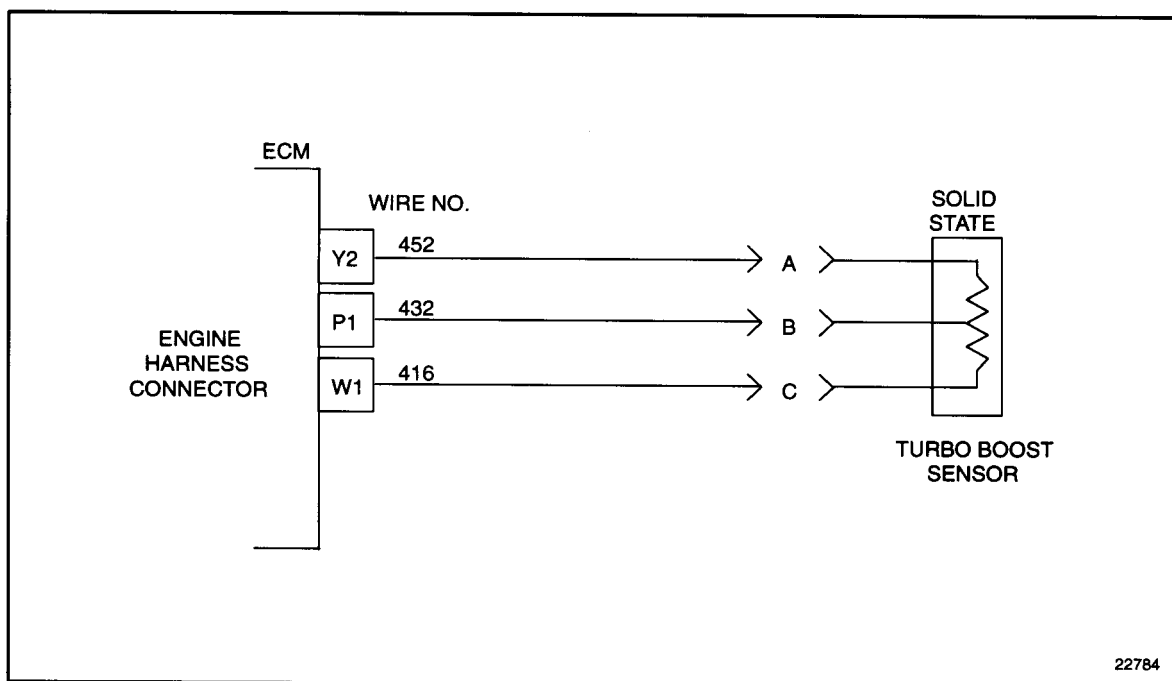

Figure 34-3 Turbo Boost Sensor Schematic
3. Install a jumper wire between pins A and B of the TBS harness connector. See Figure 34-3.